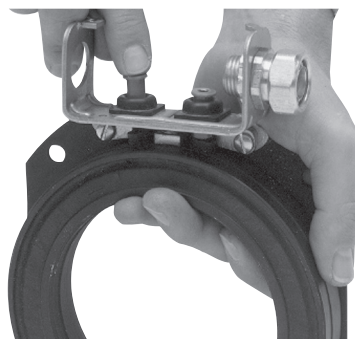

Figure 3
- Step 4 Snap the two rubber grommets (6) into two square holes in the bottom of the conduit box. The grommet crowns should be in the box and the rubber flanges should be on both sides of the metal floor. (See Figure 3)
- Step 5 Push two terminal spacers (7) through the grommets with the spacer flanged ends inside the conduit box. (See Figure 3)